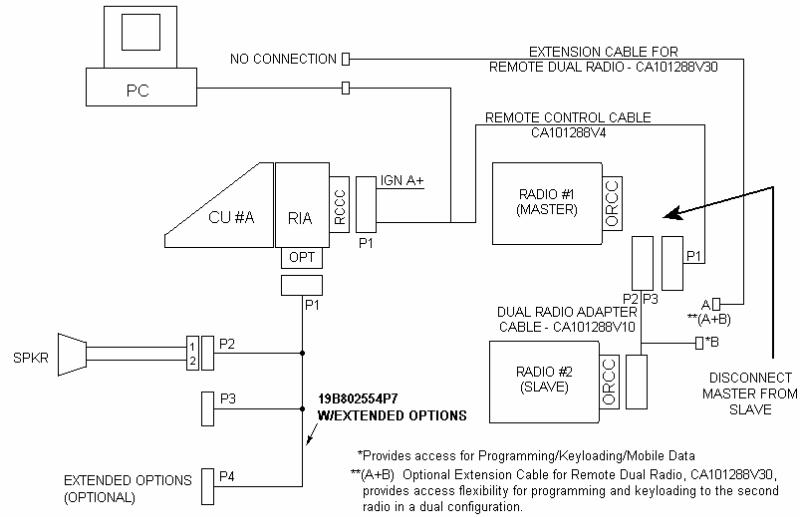

Figure 12-4: Dual Radio Configuration – Remote/Remote Mount PC Programming Procedure
1. Connect the M7100 Master Radio per the ProGrammer setup as shown in Figure 12-4, STEP 1 with the Slave Radio disconnected. Program the Master Radio with the control configurations per the Pre-Installation Programming Procedure – Dual Radio Units and adjust as necessary for the desired application.
2. Connect the Slave Radio with ProGrammer as shown in Figure 12-4, STEP 2. The Master Radio should now be disconnected, with the Slave Radio connected as indicated. Program the Slave Radio with the configuration per the Pre-Installation Programming Procedure – Dual Radio Units and adjust as necessary for the desired application.